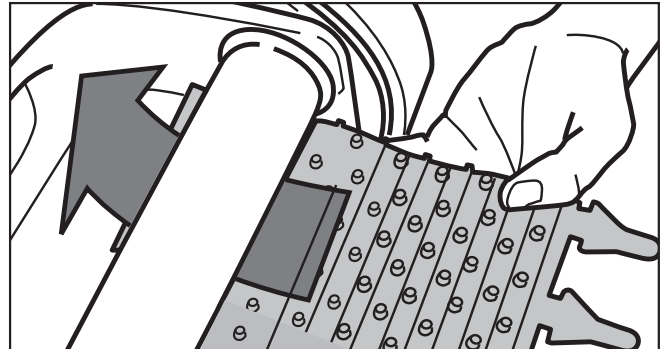

Figure 26. Position the New Brush on Roller
3. Position the new brush matt underneath the roller with the bristles facing downwards. Refer to Figure 26.